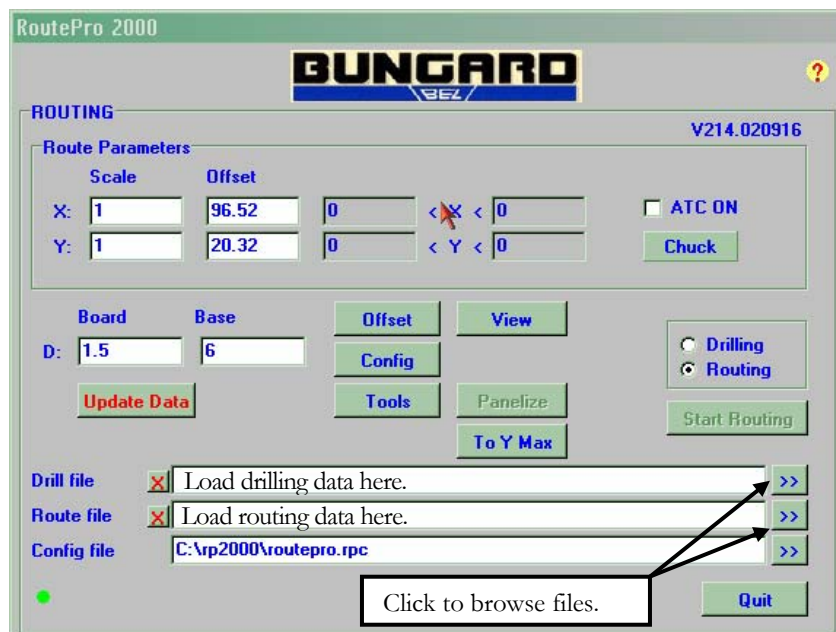

Figure 7 – Main routing window.
2. Load top side routing data and drilling data from into RoutePro at once. See Figure 7.